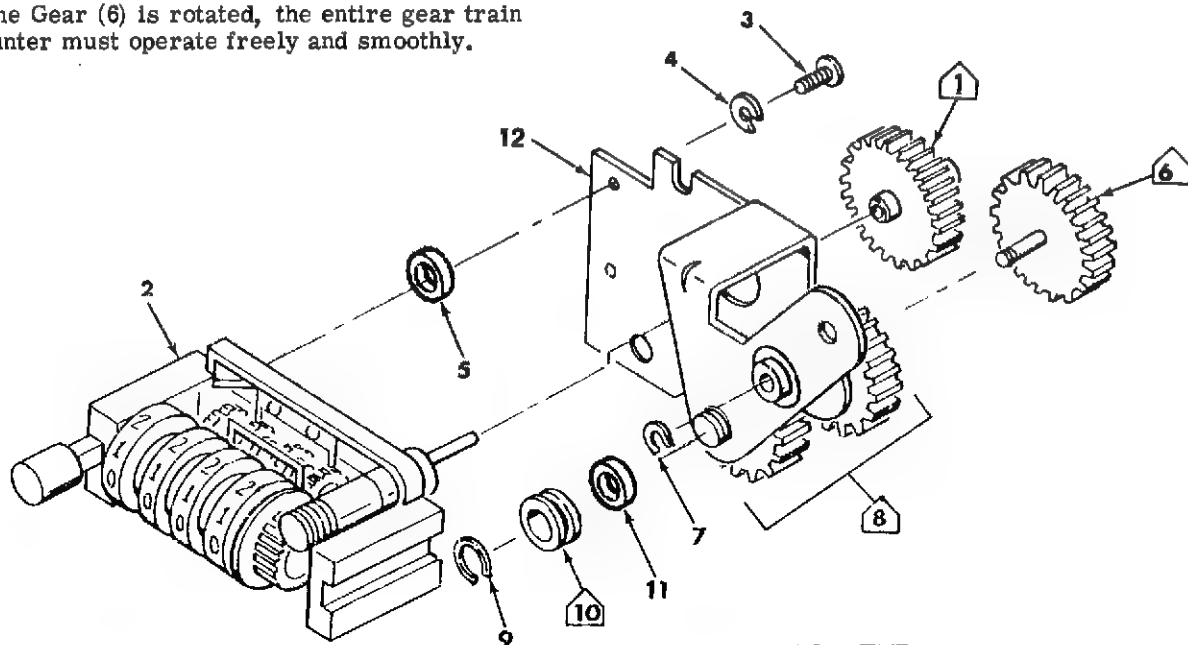

Figure 3-39. FILM COUNTER
1. Lubricate the interfaces of the Idler Gear Assembly Shaft (8) and the Bearing (10) with Teresso Instrument Oil (39479-P8). (Figure 3-39)
2. When the Gear (6) is rotated, the entire gear train and counter must operate freely and smoothly.